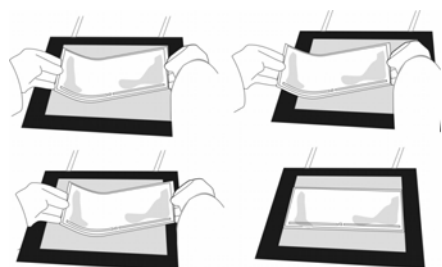

Fig. 2
5. Grip the gel (gel-side up) at the two lateral edges of the film, bend it into a "U-shape" and slide the film left and right to distribute the contact fluid evenly (Fig. 2). Remove any excess cooling fluid.